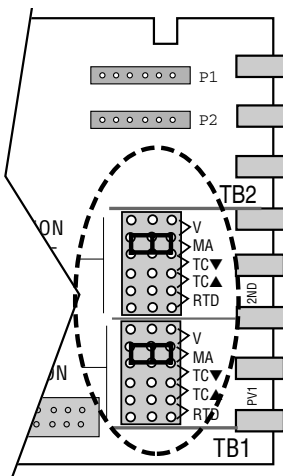

Figure A4.7
6. Remove both input jumper connectors from the pins in the 2nd position. Place one of the jumpers on the PV1 position **mA** pins, and place the other jumper on the 2nd position **mA** pins, as shown in *Figure A4.7*.
1. Power down the 545 controller and place the input jumpers in the desired position (refer to Figure A4.2 and Figure A4.7).